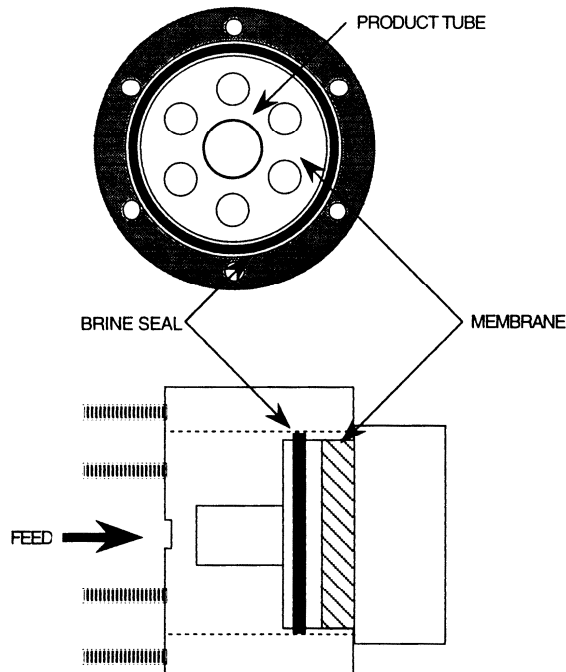

Figure 6.1 - Brine Seal Orientation
- 4) Note which end of the pressure vessel the brine seal is visible from. This is the feed end of the pressure vessel. When reinstalling the RO membrane, the brine seal must be located at the feed end of the pressure vessel. Note the feed flow direction marked by a sticker on the outside of the pressure vessel, or trace the flow direction from the high pressure pump to confirm the high pressure flow direction. See Figure 6.1.